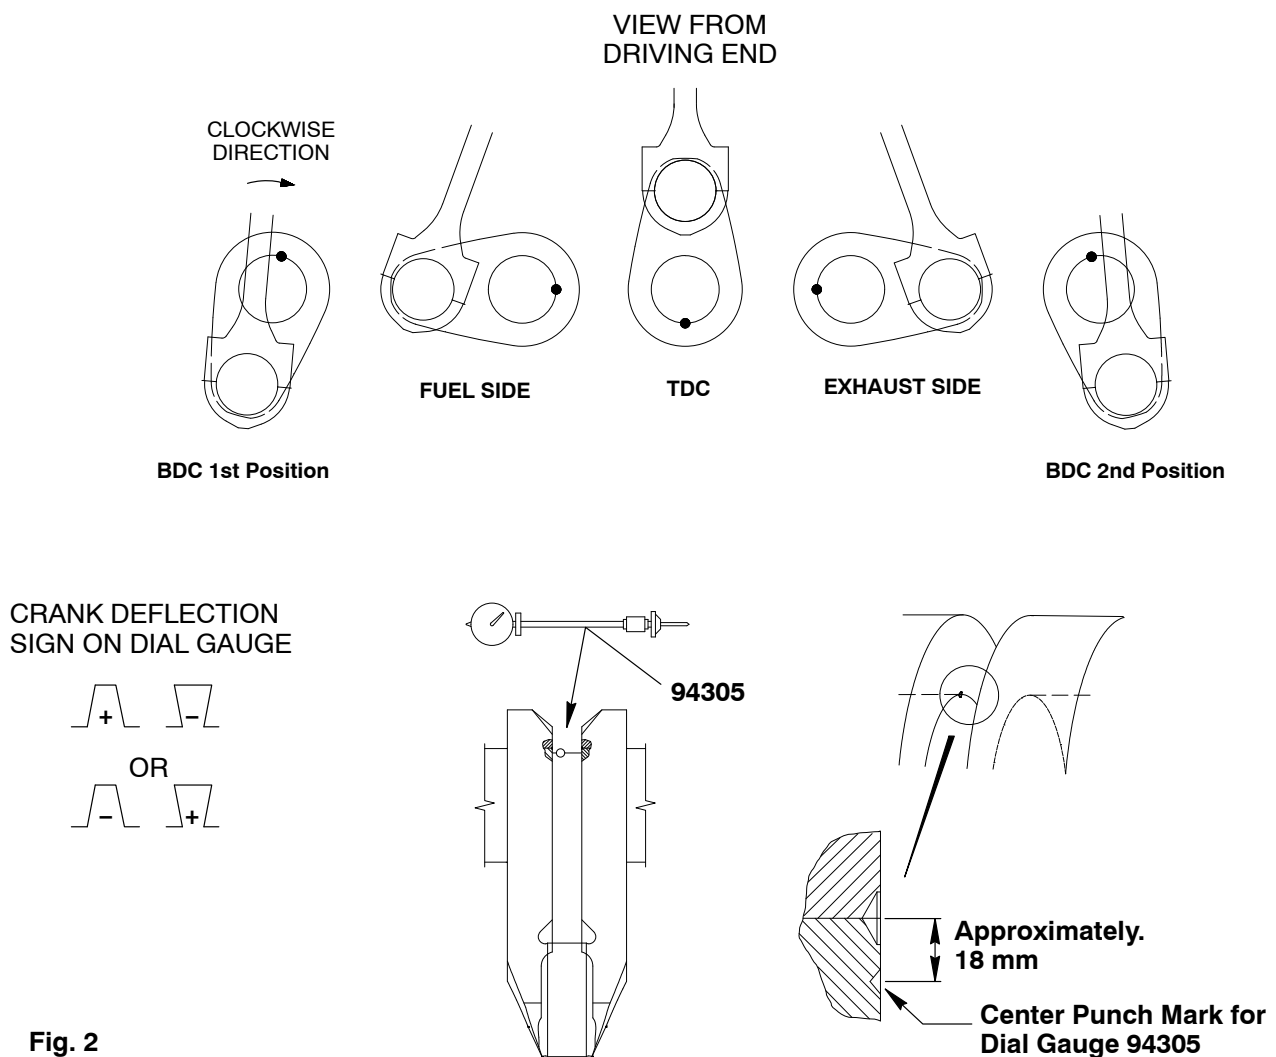

Fig. 2
- 2) Operate the turning gear to move the crank to the BDC 1st position (see Fig. 2).
The difference between the indicated values shows the crank deflection during one full turn (Fig. 2).